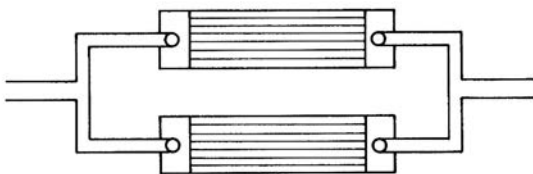

FIG. 13 Coolers connected in parallel
- 2.5.8 For piping diagrams for multiple cooler installations, see Figures 13 through 16.